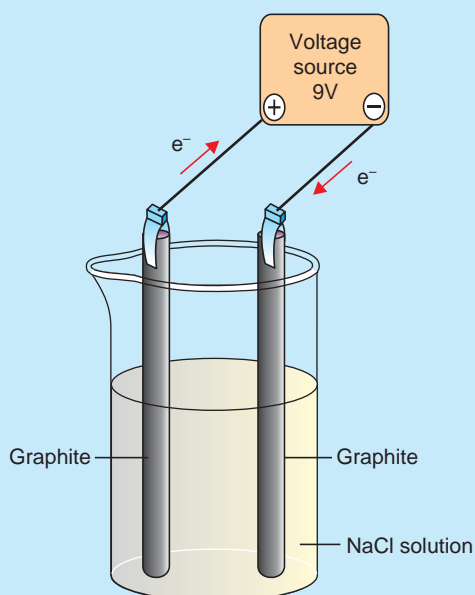

Figure 4.5 Electrolysis of sodium chloride solution
4. Arrange the setup as shown in the **Figure 4.5**.
2. Identify the cathode and anode in the **Figure 4.5**.